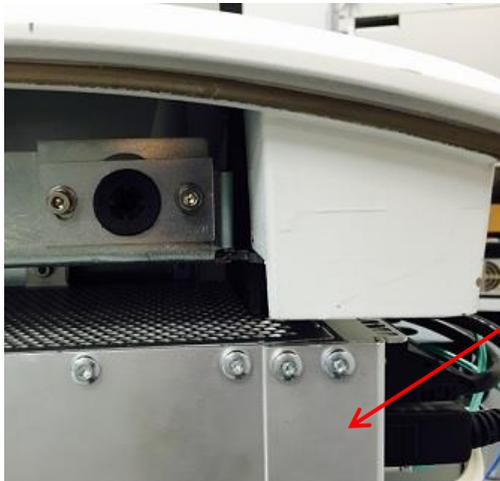

Figure 69: Cooling Fan 1 Right Side View
4. Using the long-handled 3 mm hex driver, remove the two hex screws, washers and lock washers securing the fan, accessing them from towards the rear of the ExactVu system cart (refer to Figure 69).